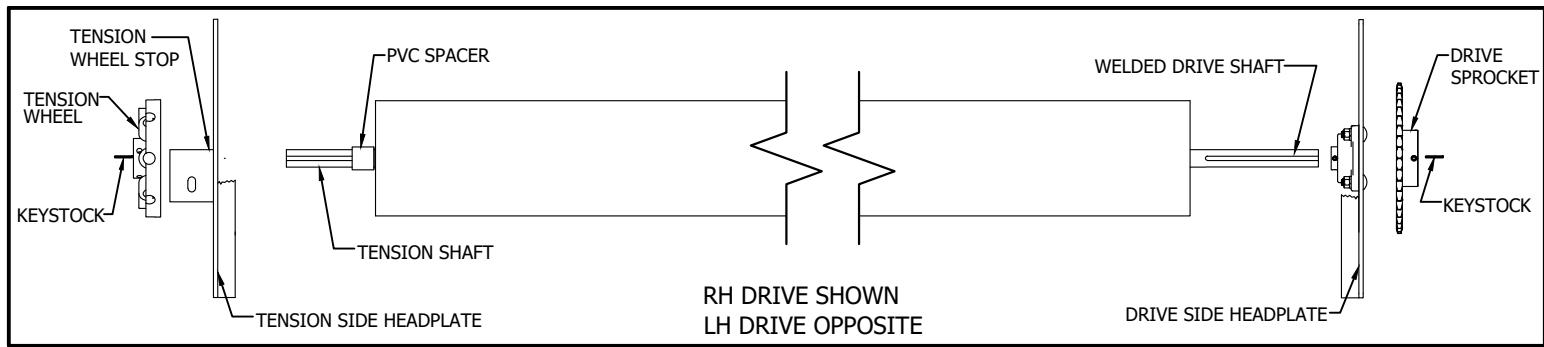

FIGURE 13
b. Install drive side headplate with mounted bearing as far as possible onto drive shaft. Install sprocket and keystone onto drive shaft and tighten set screws on sprocket at this time as shown in Figure 13.